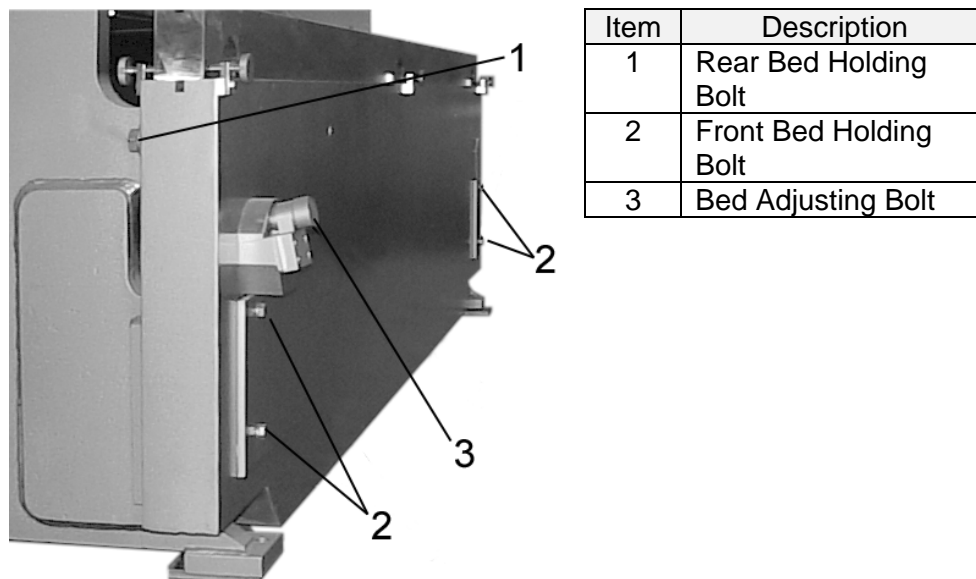

Figure 8: Bed Tilt Wedge Assembly
1. To adjust the bed, loosen the six bed holding bolts. Two are located on the rear side of the bed, one on each end of the press. The other four are located front side of the bed, two on each end of the bed. (See *Figure 8 Items 1 & 2*).
2. Rotate the adjusting bolt clockwise to lift the bed and counterclockwise to lower. (See *Figure 8 Item 3*).
3. Snug the bed holding bolts. The bed holding bolts should only be snug enough to compress the lock washers, but should not be over tightened. (See *Figure 8 Item 1 & 2*)